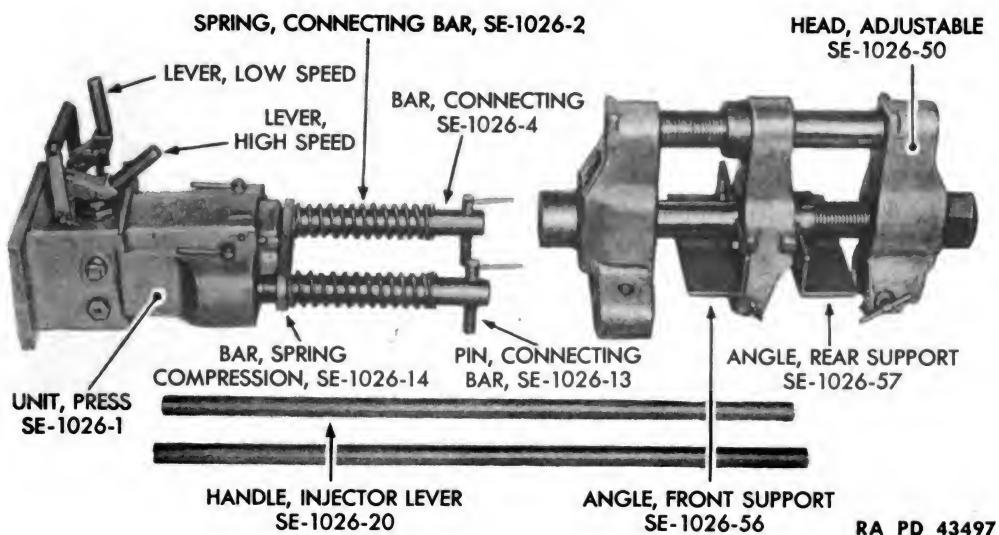

Figure 201 — Portable Hydraulic Track Pin and Bushing Press with Adjustable Head
b. Track Pin and Bushing Press with Adjustable Head (fig. 201). Press may be used to remove and replace track pins and bushings. Press unit SE-1026-1 and tools SE-1026-2, -4, -13, and -20 are packed in one box. Adjustable head SE-1026-50 and all tools covered by SE-1026-51 are packed in another box (fig. 188). This arrangement is helpful for quickly selecting tools required for each operation. Check list must be kept tacked to inside of box lid. After using press, replace tools in box. Check against list tacked on box lid to be sure all tools are replaced.